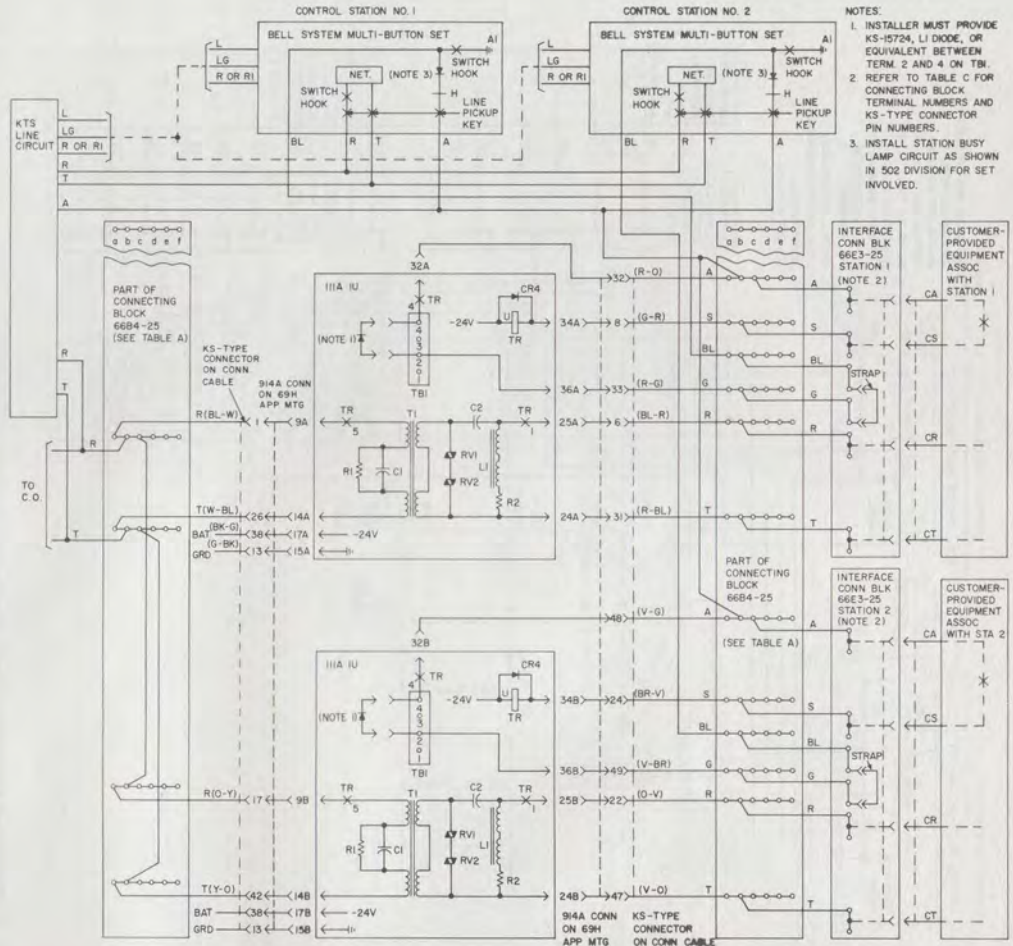

Fig. 8—Simplified Schematic-Voice Connecting Arrangement CEBAX
**3.11** Power supply (supplied locally if required) connects to the 66B4-25 connecting block as shown in Fig. 8 and 9. Fuses must be provided locally for the 69H apparatus mounting. Each 111A IU requires 0.047 ampere at 26V dc. Refer to the appropriate section in Division 518 for proper grounding of power plants.
**3.19** Install diode between terminals 2 and 4 of TB1 as shown in Fig. 8 or 9 before installing 111A IU in apparatus mounting.
##### 4.01 *Connection—Voice Connecting Arrangement CEBAX* (Fig. 8)
### CEBAX (Fig. 8)
**6.01** For connecting information using the 69H apparatus mounting, refer to Fig. 8 or 9 and Table A or B.
**6.02** The 111A IU is shown schematically in Fig. 8 and 9. The 69H apparatus mounting has provisions for installing two 111A IUs. Terminal designations for the KS-type connector associated with the 66E3-25 interface connecting block are shown in Table C.